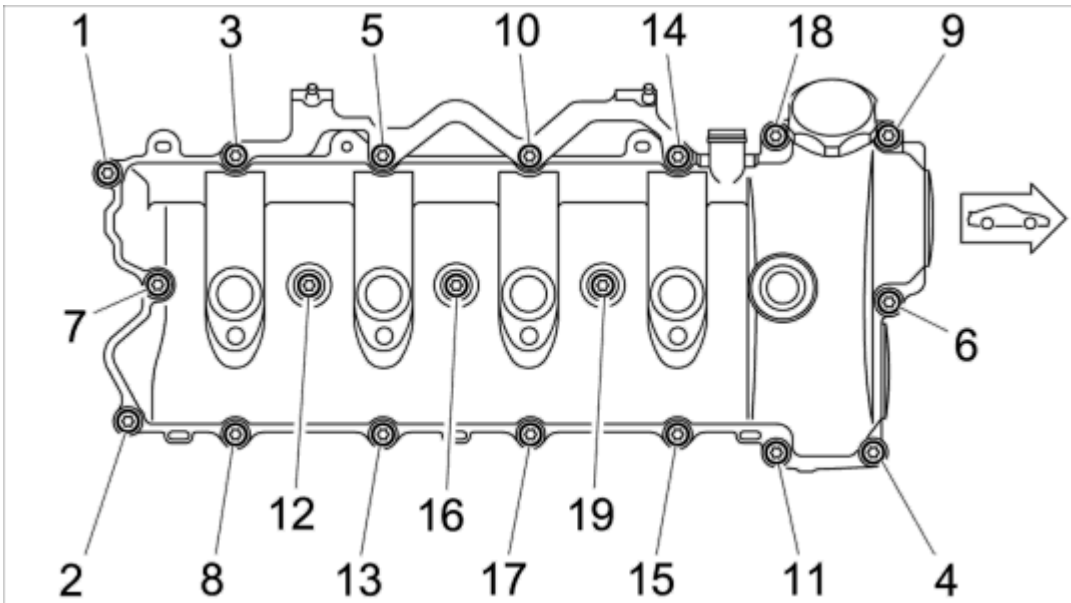

Fig. 441: Camshaft housing lid
5. Unscrew screws **-1 to 19-** (**-16 and 19-** were mounted on the torque support bracket) and lift the camshaft housing lid carefully at the back to avoid damaging the trigger wheel of the reference mark sender on the camshaft (this is located in the vicinity of screws 1 and 7). Then lift it off completely. See Fig. 441.